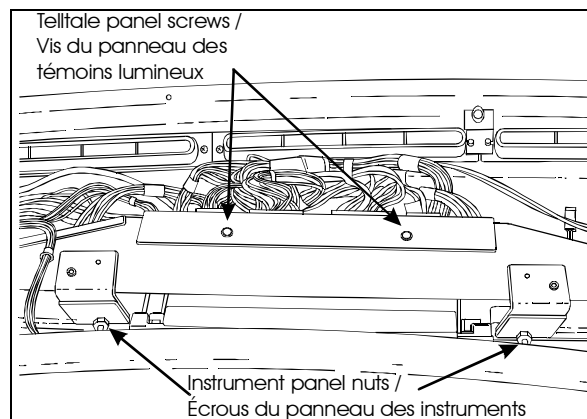

FIGURE 2 : DASHBOARD COMPONENTS
5. Remove the nuts fixing the instrument cluster to the dashboard housing (figure 2).